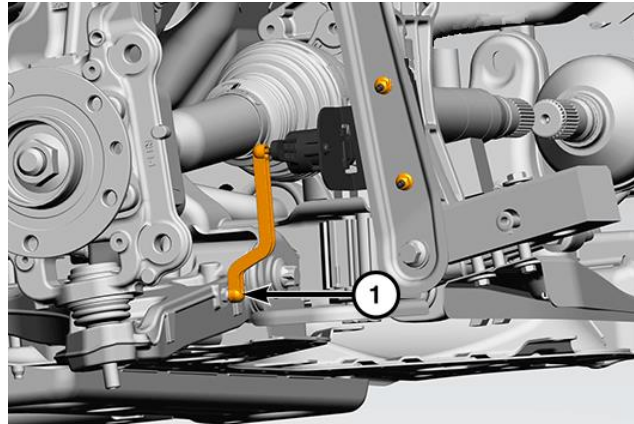

Figure 19 – Height Sensor Actuator Rod
24. **If equipped**, Disconnect the vehicle height sensor actuator rod (1) from the lower control arm (Figure 19).